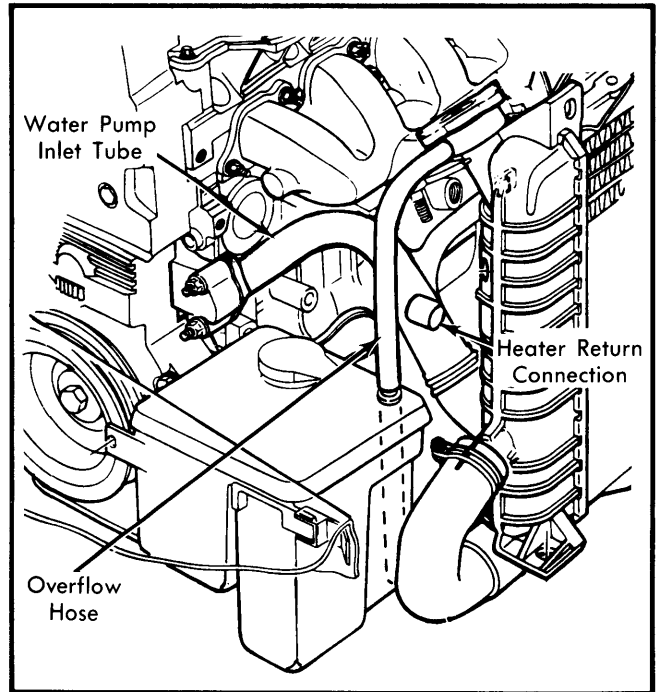

Fig. 12 Heater Tube-to-Water Pump Inlet Tube Connecting Point
2) Remove timing belt and camshaft sprocket. Remove the rear front timing cover stud. Remove heater return tube hose connection from water pump inlet tube. See Fig. 12. Remove water pump inlet tube fasteners, tube and gasket. Remove water pump bolts, water pump, and gasket.